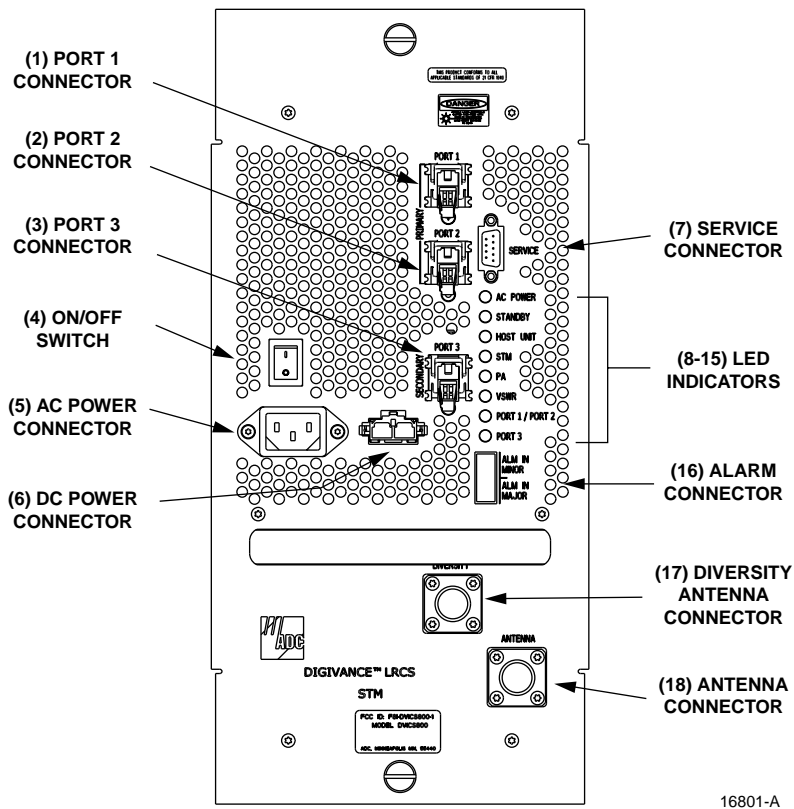

Figure 1. Spectrum Transport Module User Interface
The STM user interface consists of the various connectors, switches, and LEDs that are provided on the STM front panel. The STM user interface points are indicated in Figure 1 and described in Table 2.
1. Check to ensure that the PWR ON/OFF switch on the STM is set to OFF (refer to item 4 on Figure 1).
2. Route the trailing battery cable from the battery pack to the battery connector on the front of the STM (refer to item 6 on Figure 1).
6. Connect the power cord trailing from the cover of the auxiliary junction box to the AC connector on the front of the STM (refer to item 5 on Figure 1).
- a. Connect the forward path fiber to the PORT 1 SC connector on the STM (refer to item 1 on Figure 1).